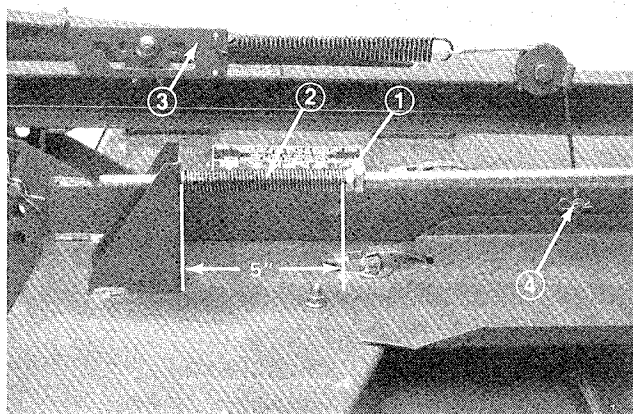

Figure 6
7. Move traction adjustment bracket rearward into forward notch (Fig. 6).
8. Secure cable end to pin on deck support bar with a washer and hairpin cotter (Fig. 6). Repeat procedure on opposite side of deck.